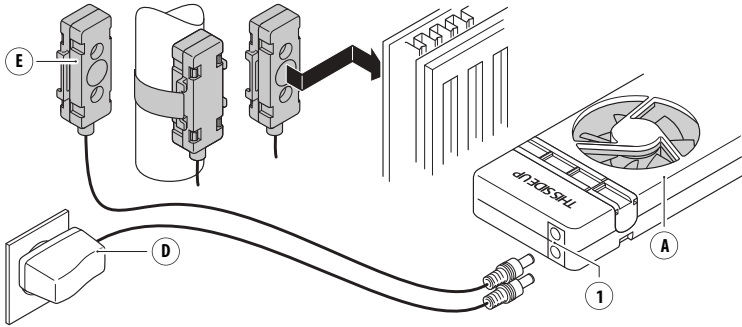

Fig. 3 - Connect the power adapter (D) and temperature sensor (E).
- Connect the **temperature sensor cable** (E) to one of the **SpeedComfort** (A) **female connectors** (1).
- Attach the **temperature sensor** (E) with its adjustable magnets (B) on the back of the radiator, close to the warm water supply pipe, or on the pipe itself (see fig. 3). Adjust the magnetic sliders to the correct width.
5. Connect the **power adapter** (D) to the remaining **female connector** (1) and the wall socket (see fig. 3).